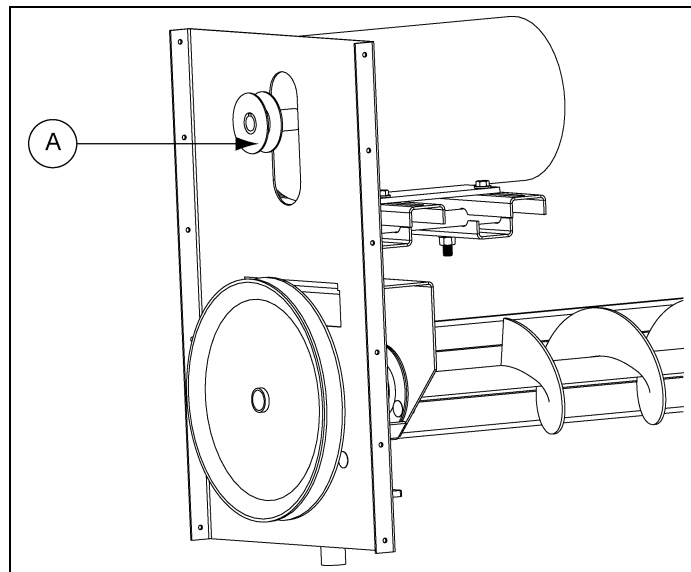

Figure 4S
Step 19: Fit motor pulley. (See Figure 4S.)